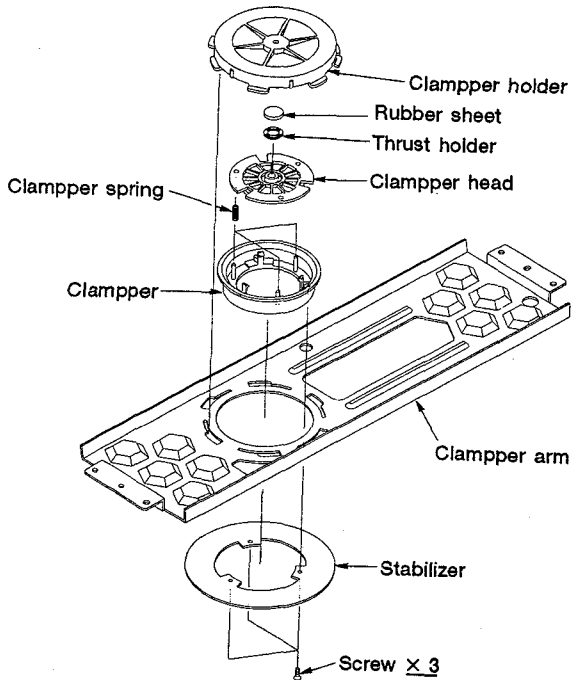

Fig. 2-6 Clamper unit
- ④ Clamper unit (Fig. 2-6)
**④ Clamper Unit (Refer to Fig. 2-6)**
While the servo-mechanism unit is ascending, the disc on the tray is lifted and the clasper waiting on top is pushed up. Clamping force is generated (Fig. 2-6) from the force of the clamp spring between the clasper and clasper head.